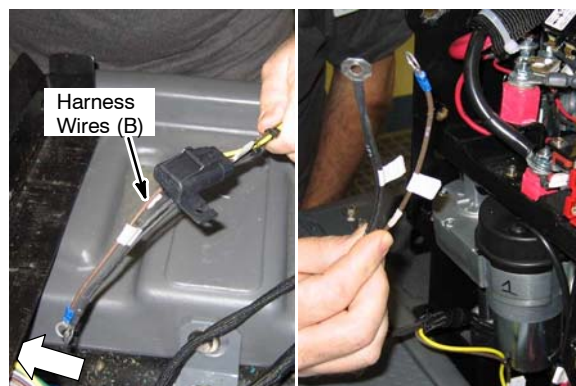

Fig. 8
8. Route the *ec-H2O* harness wires (B) to the control board as shown (Figure 8).